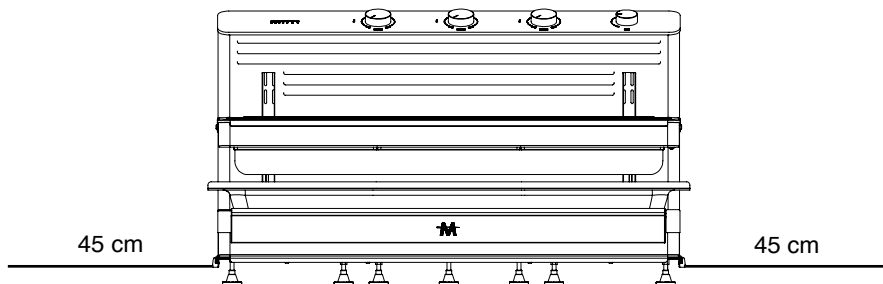

Figure 2
- 45 cm of space on the sides for MiiTi 09 model (Figure 2)